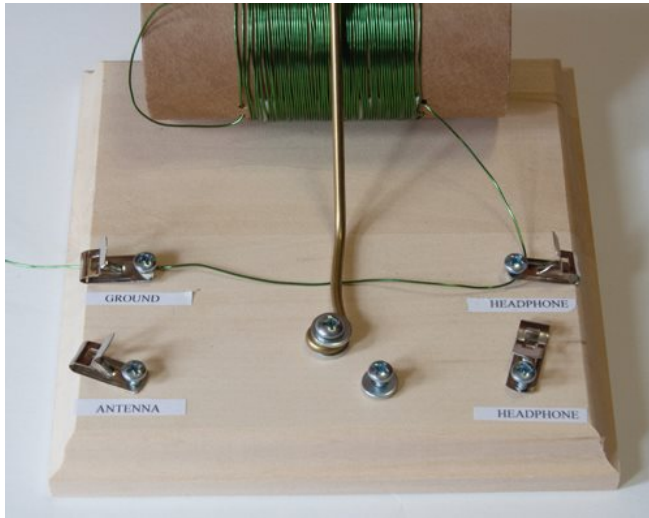

Figure 10. Loop the stripped portions of the tuning coil wire under the top "HEADPHONE" and "GROUND" clips.
- a. With the wooden mounting board in front of you and the tuning coil farthest from you, loop the extra wire on the right-hand side of your tuning coil around the screws *under* the top "HEADPHONE" and "GROUND" clips, as shown in Figure 10. Make a mental note or use your finger to mark approximately where the wire is